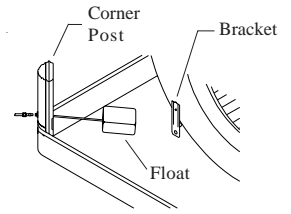

Fig. 8
- Attach water line to float.** Attach the water supply line to the float in the same manner as above. The float may be installed in either the corner post or bracket (Fig. 8).